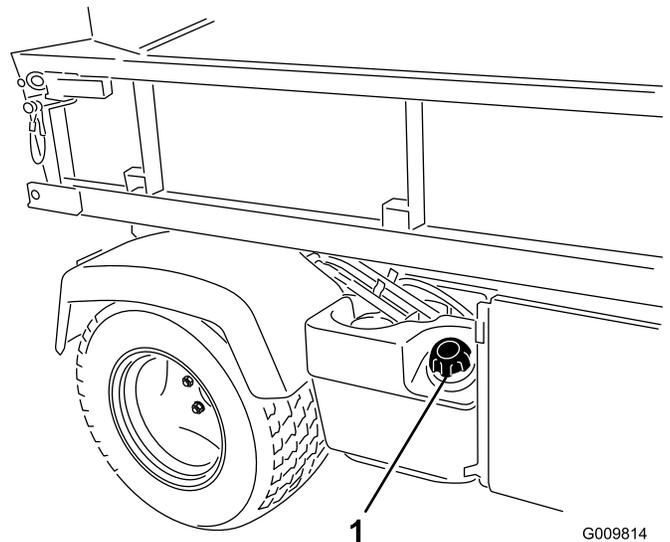

Figure 14
2. Remove the fuel tank cap (Figure 14).